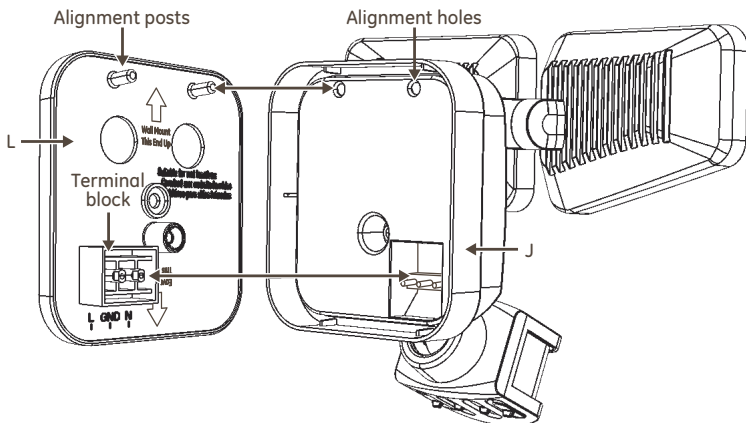

Figure 9
10) Mounting the light fixture (J)
- a. **NOTE:** The three pins on the rear of the light fixture (J) must be inserted into the terminal block for the fixture to work.
- b. Align the two alignment posts on the back mounting plate (L) with the two alignment holes on the back of the light fixture (J) and align the edges of the light fixture (J) with the edges of the back mounting plate (L) (see **Figure 9**).